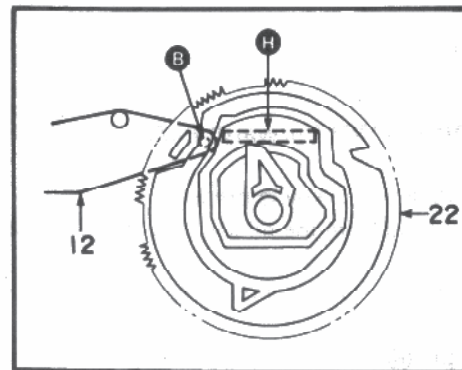

Fig. 6
- 1-12) The FD GEAR is locked in position of Fig. 6 by the pin (B) of the FD ARM, and the P/R and E heads fixed on the SUB-CHASSIS are held in the PLAY/REC position.